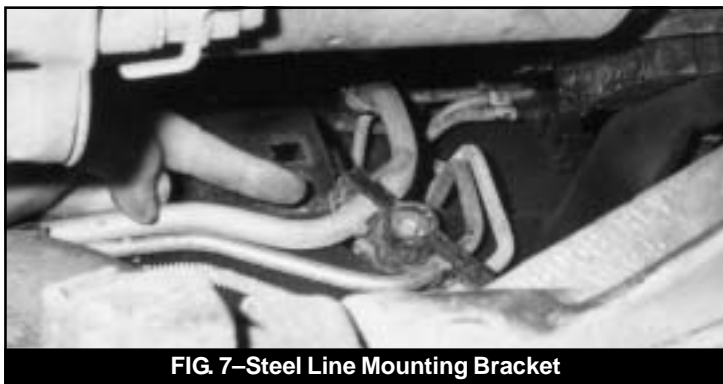

FIG. 7—Steel Line Mounting Bracket
19. The large diameter line must be removed from the mounting bracket (Fig. 7). Remove the bolt that closes the bracket and remove the line from the bracket.